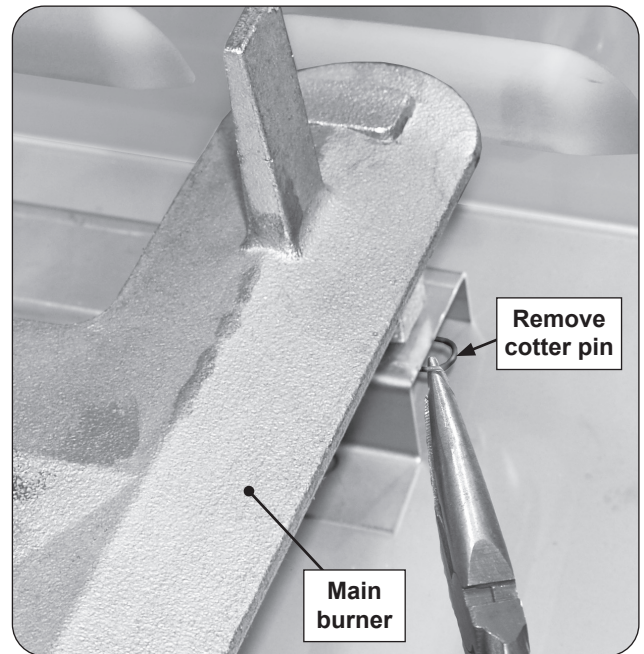

Fig. 39-1 Main burner removal
2. Locate and remove the cotter pin from the left or right rear burner anchoring peg by pulling it straight out of the cotter pin hole using fingers or needle-nose pliers. See Fig. 39-1.